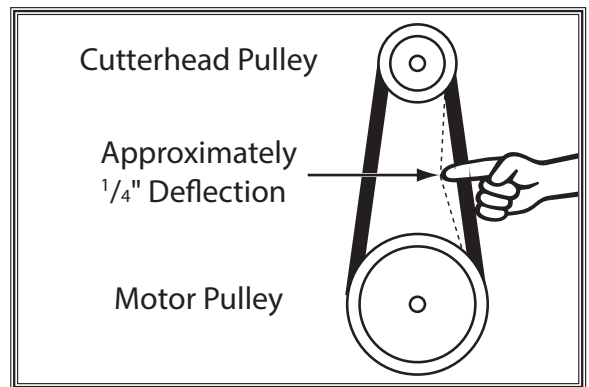

Figure 52. Checking belt deflection.
3. Press down on motor pulley to keep tension on belt, and tighten (3) button head cap screws loosened during **Step 3** of **Replacing Belt**.
4. Press belt with moderate pressure in center to check belt tension. Belt is correctly tensioned when there is approximately 1/4" deflection when pushed (see **Figure 52**).
- If there is greater than 1/4" deflection when checking belt tension, loosen (3) button head cap screws around motor pulley, then repeat **Steps 3-4** until tension is correct.
5. Install belt cover using (1) button head cap screw removed in **Step 2** of **Replacing Belt**.